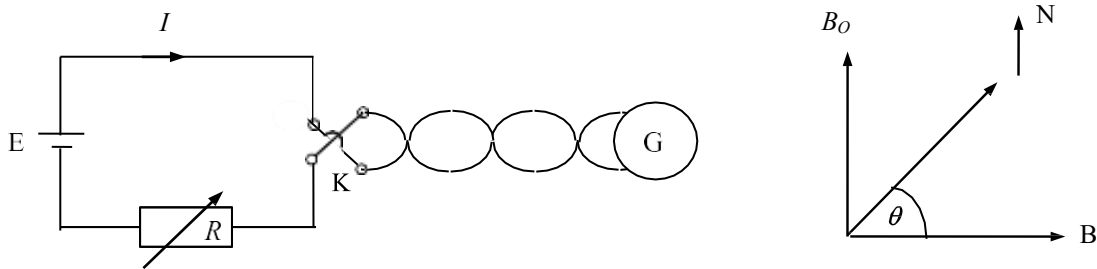

Fig. 1: The figure of the experimental circuit and the orientation of the magnetic fields
- Connect the circuit as shown in the Fig. 1.
- Reverse the key (K) and take the relevant readings.